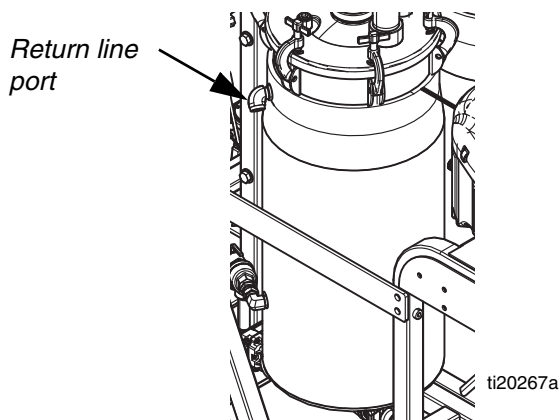

FIG. 30
7. Disconnect the material circulation return line from the side of each tank then cap the tank port. This enables pushing the mineral oil out of the fluid lines. Route the return lines into waste containers. See FIG. 30.